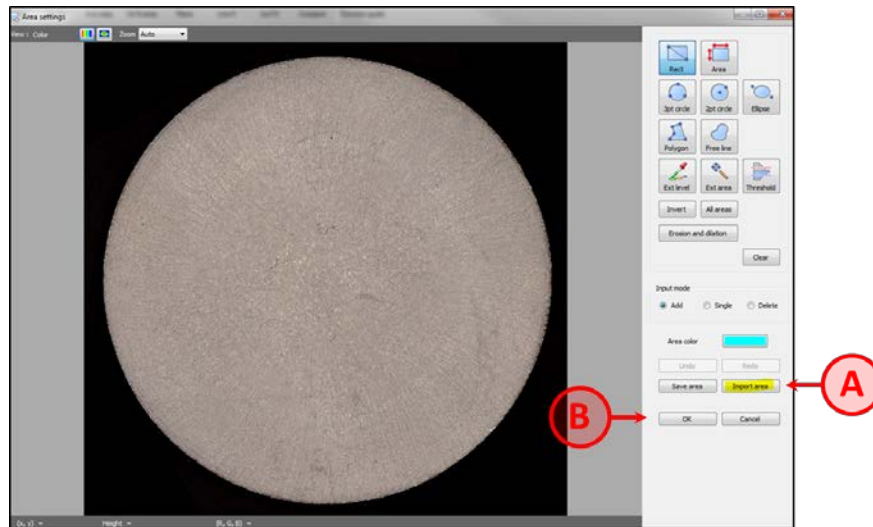

Figure 11 - Area Settings Pop-Up Menu
- 3.3. Click the **(A) Import area** button near the lower right-side corner of the *Area settings* pop-up menu (Figure 11).
- 3.6. Click the **(B) Ok** button (Figure 11) on the *Area settings* pop-up menu.